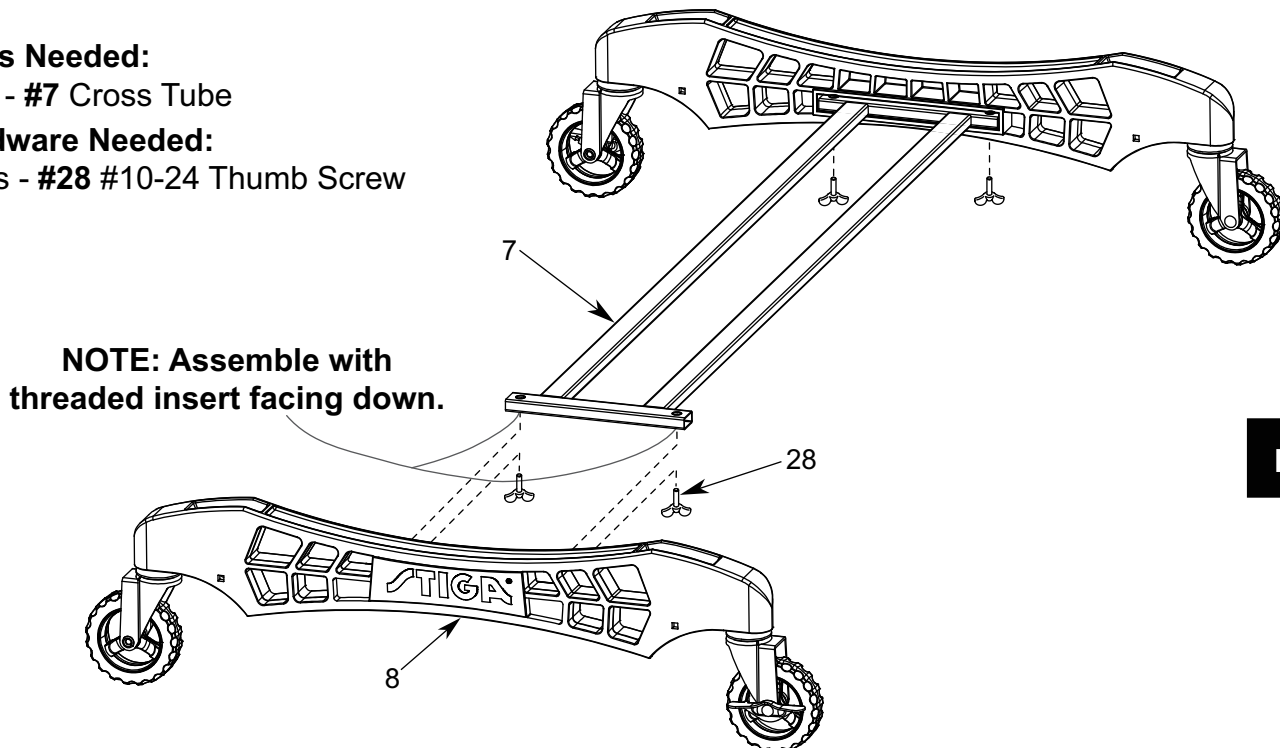

Figure 2
- Attach Cross Tube (#7) to Caster Beam Assemblies (#8) using four Thumb Screws (#28) as shown in **FIGURE 2**. Tighten bolts snug but **DO NOT** over tighten.